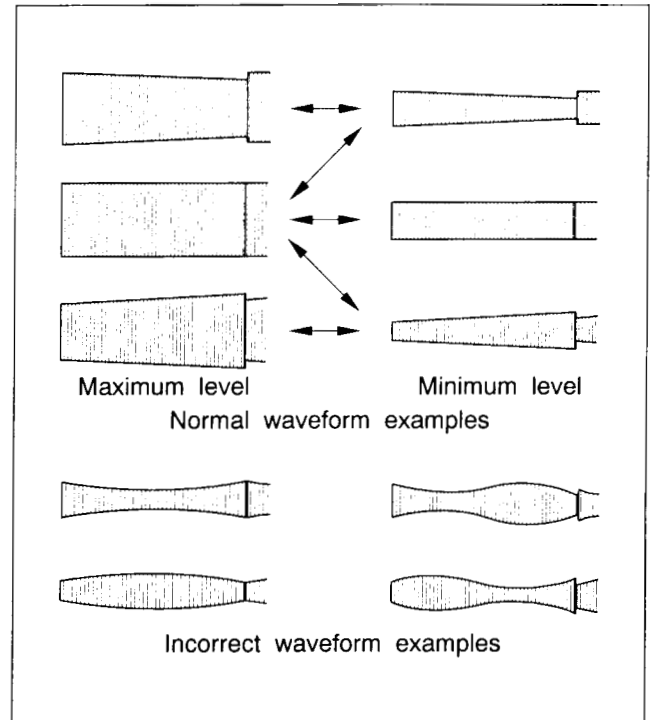

Fig. 2-7-1
- (1) Connect the oscilloscope to TP106(PB FM) on the Main board.Use TP111(D.FF) on the Main board as a trigger.
- (2) Playback the SP staircase portion of the alignment tape. Confirm that the FM waveform appears as indicated in Fig.2-7-1.
- (3) Set the manual tracking position by simultaneously pressing the CH " + " and " - " buttons.
- (4) Operate the tracking adjustment (press the CH buttons during playback) and set for maximum playback FM waveform.
- (5) By operating the CH button, vary the FM waveform from maximum to minimum and vice versa to confirm that the waveform varies nearly in a flat shape as shown in Fig.2-7-1.